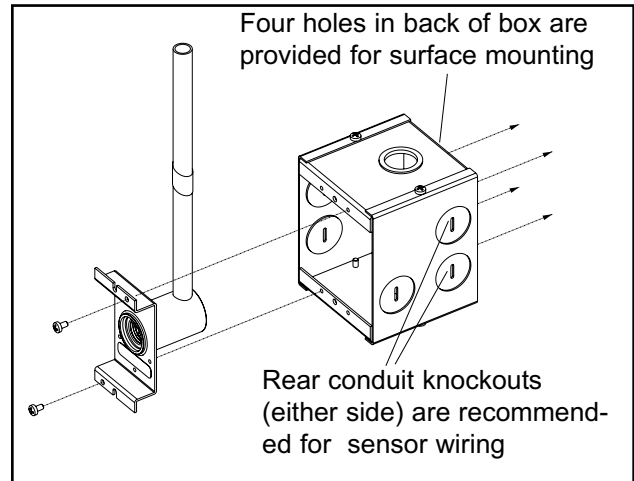

Figure 8: Remote Sensor Back Box
1. Remove sensor rough-in from mounting box (Figure 8).